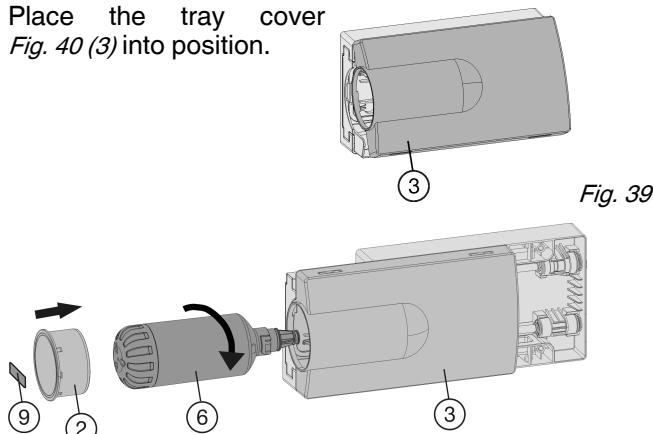

Fig. 40
- Place the tray cover *Fig. 40 (3)* into position.
- Remove the film from the water filter *Fig. 40 (6)*.
- Insert the water filter *Fig. 40 (6)* and turn it approximately 100° to the right until it locks into position.
- Place the cover on the filter *Fig. 40 (2)*.
- Write the date of the next filter replacement on the supplied adhesive label *Fig. 40 (9)* and affix it to the module.